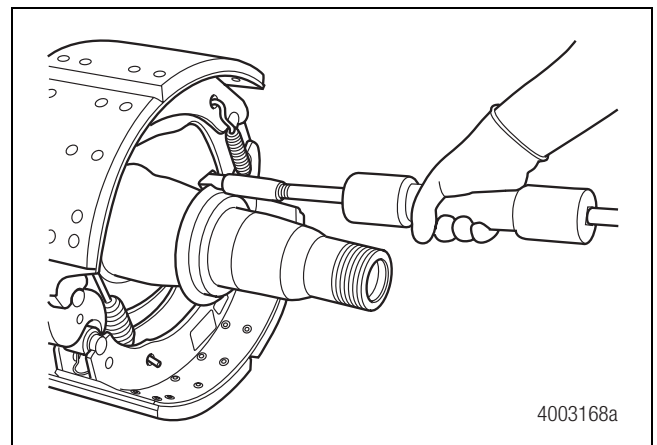

Figure 13
14. Use a slide hammer with a hook on the end of the tool to remove the wiper seal. Discard the seal. Figure 13.